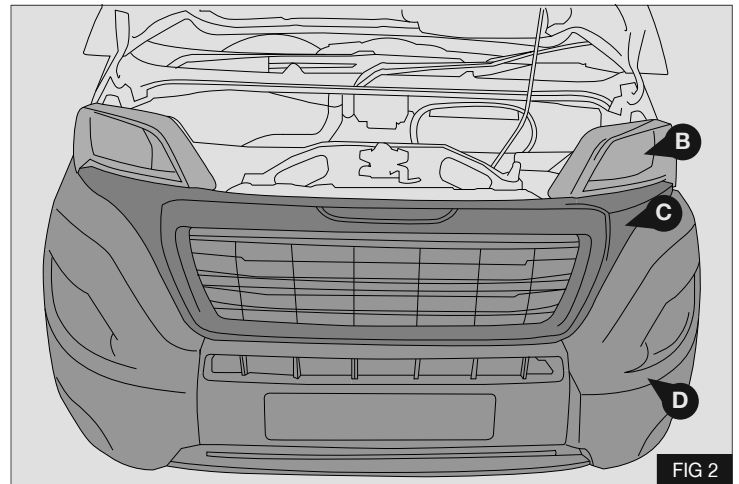

FIG 2
3. Remove head lights (B) 2x fasteners each- slide to centre of vehicle to remove. - Fig 2
4. Remove front grill (C) 10x fasteners. - Fig 2.
5. Remove front bumper (D) 27x fasteners. - Fig 2